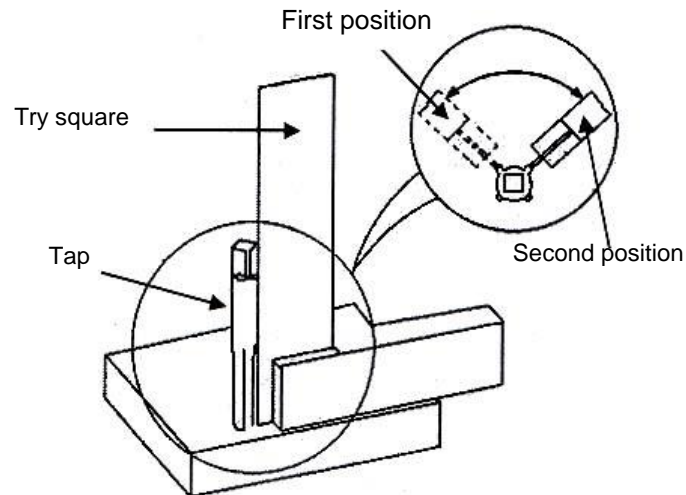

FIG 8.
- Check the tap for squareness to the workpiece with an engineer's try square after 1½ to 2 full turns of the tap. See Fig 8 on the next page.